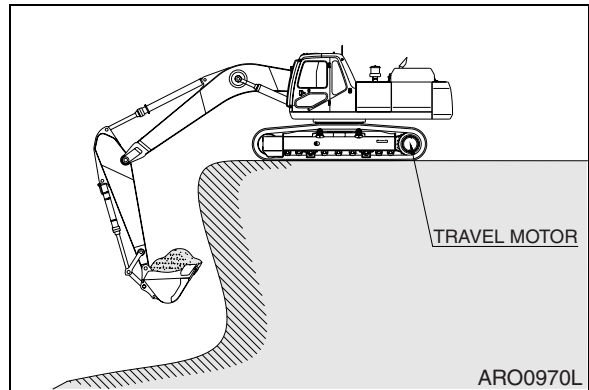

Figure 57
9. When working close to the excavated edge make sure that the ground the machine is sitting on is solid. Keep the travel motors to the rear. See Figure 57.